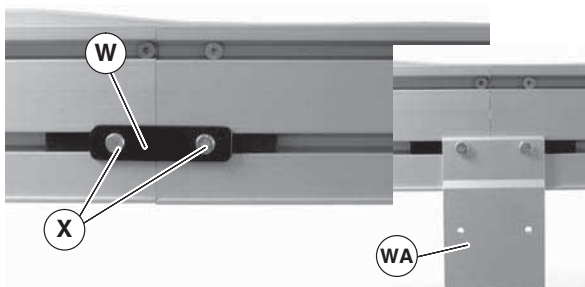

Figure 8
- Join conveyor sections and install connector brackets (Figure 8, item W) or connector/mount brackets (WA) and screws (X) on both sides as indicated. Tighten screws to 60 in-lb (7 Nm).